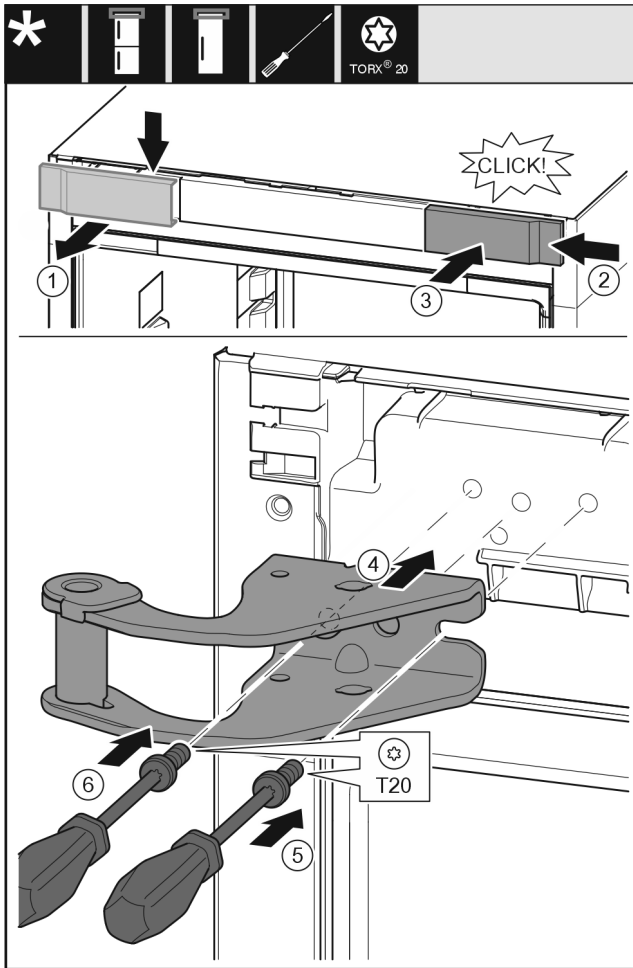

Fig. 15
- ▶ Remove the cover Fig. 15 (1) from above towards the front.
- ▶ Turn the cover Fig. 15 (2) by 180° and attach to the other side from the right.
- ▶ Engage the cover Fig. 15 (3).
- ▶ Place the top swap bearing block Fig. 15 (4).
- ▶ Use screwdriver Fig. 15 (5) to place the screw and tighten it.
- ▶ Use screwdriver Fig. 15 (6) to place the screw and tighten it.